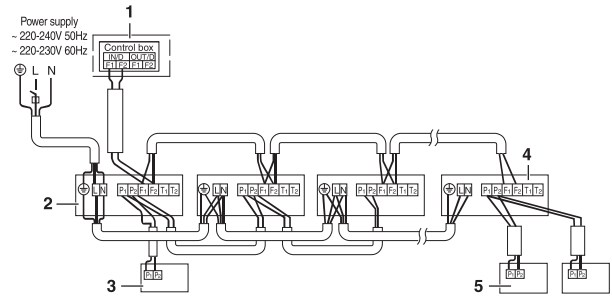

Fig. 28
- (2) For group control or use with 2 remote controllers (See Fig. 28).